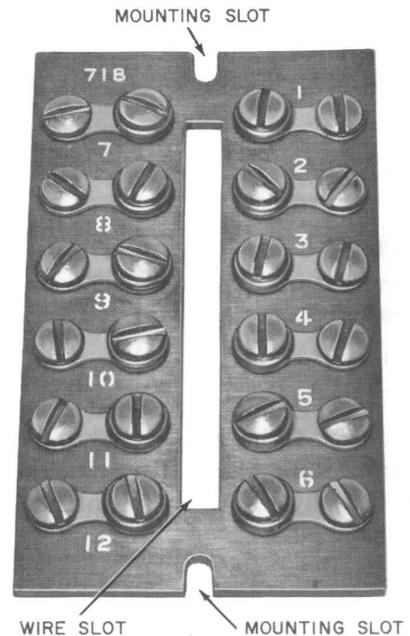

Fig. 1—71B Connecting Block
2.02 The 71B connecting block (Fig. 1) is similar to the 71A (MD) except it has mounting screw slots instead of holes. The connecting blocks consist of a phenol fabric base equipped with 12 double-screw terminals. The blocks are used for mounting in 113-type and 114A apparatus boxes for installation of panel telephone sets (Table A).